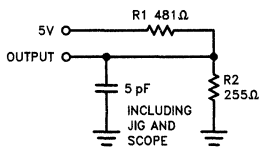

Figure 1b
- tHZCE and tHZWE are specified with CL = 5 pF as in Figure 1b. Transition is measured ± 500 mV from steady state voltage.